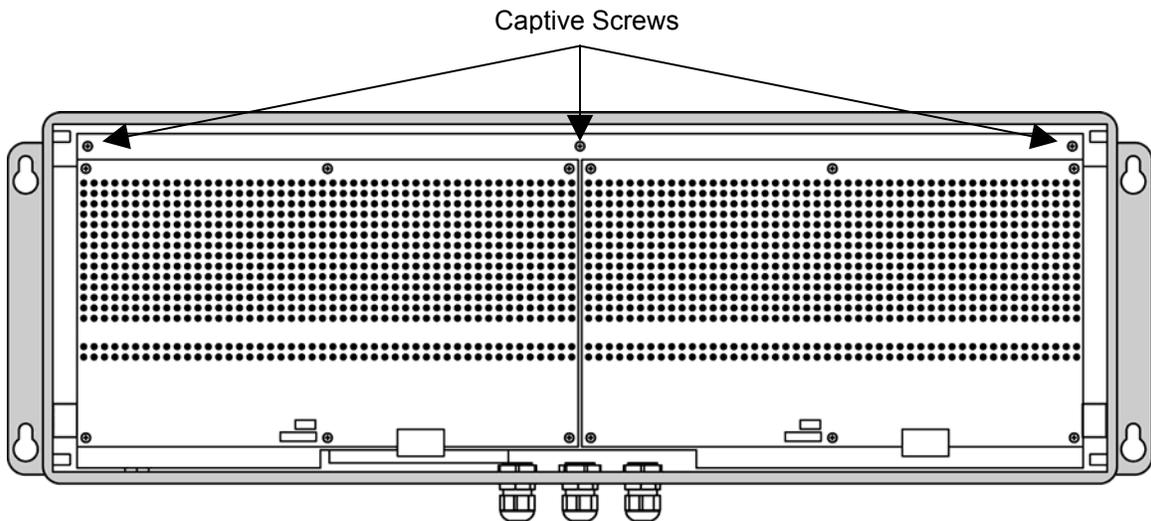

Fig. 5: Open Enclosure
1. Remove the captive screws holding the Electronics Plate to the Main Enclosure (Fig. 5). The Beacon 45 has two (2) captive screws. Other Beacon models have three (3).